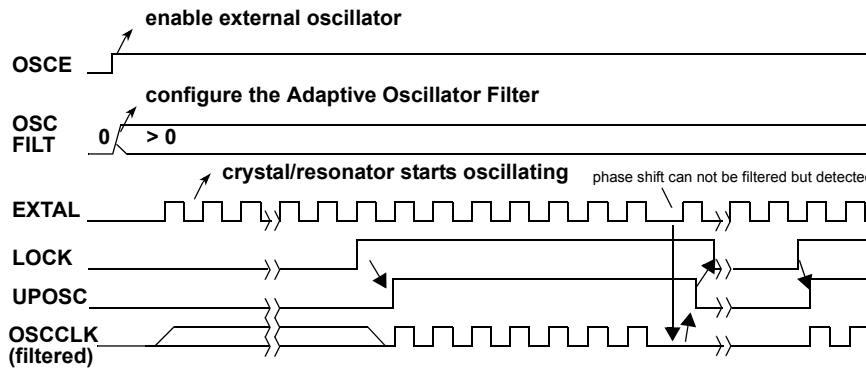

Figure 92. Critical Noise Detected by the Adaptive Oscillator Filter
2. Detect severe noise disturbance on external oscillator clock which can not be filtered and indicate the critical situation to the software by clearing the UPOSC and LOCK status bit and setting the OSCIF and LOCKIF flag. An example for the detection of critical noise is illustrated in Figure 92